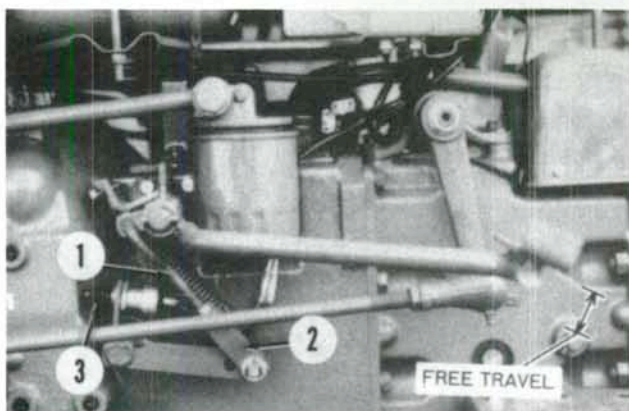

Fig. 165—View of clutch linkage typical of 1100, 1110, 1200 and 1210 models. Pedal free travel should be 20-30 mm (3/4 to 1-3/16 inches).
100. Clutch pedal free travel should be 20 to 30 mm (¾ to 1-1/16 inches). Free travel is measured at pedal pad as indicated in Fig. 165 or 166. To adjust, disconnect clevis (2) from bellcrank and lengthen or shorten rod (1) as required to obtain recommended free travel.
Check adjustment of safety start switch (3—Fig. 165), if so equipped, as outlined in paragraph 93 after clutch linkage is adjusted.